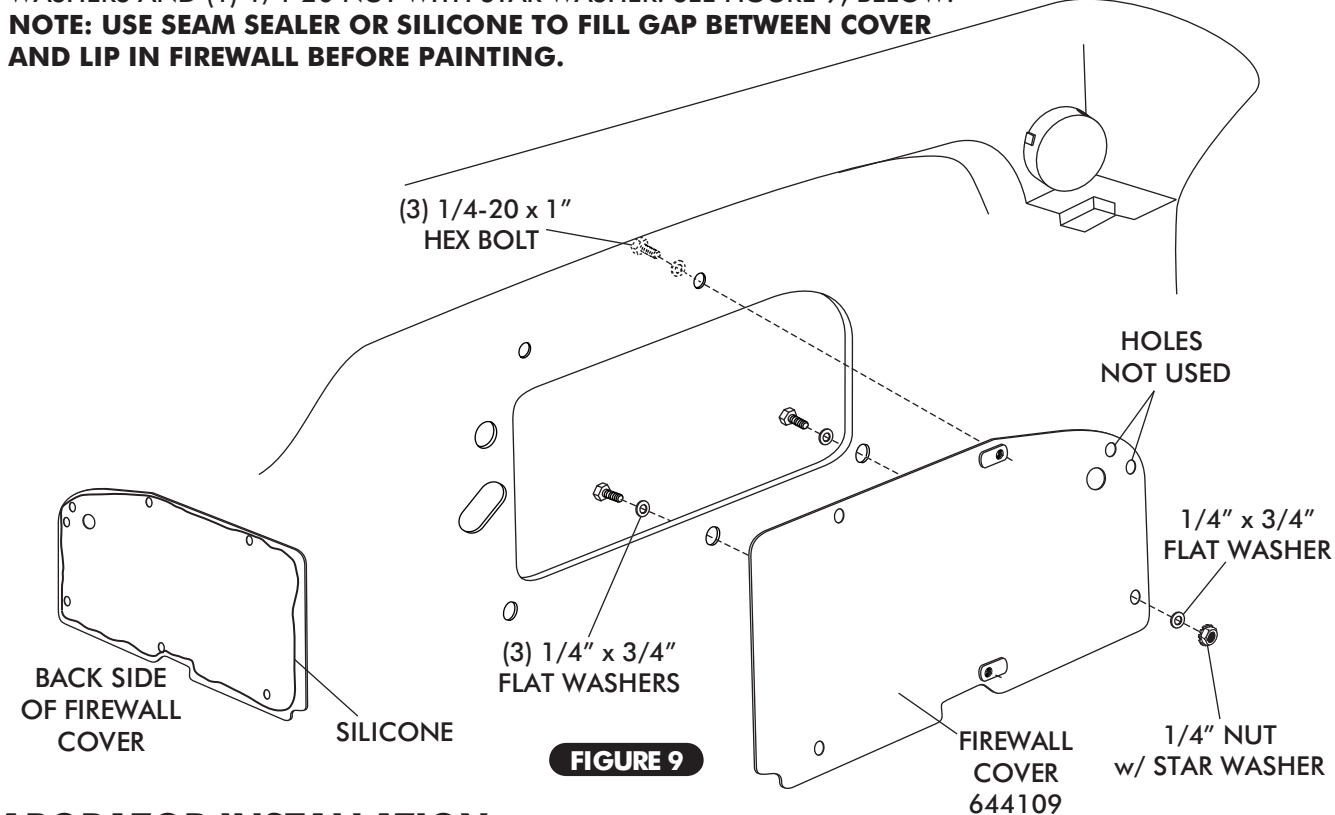

FIGURE 9
- APPLY A 1/4" BEAD OF SILICONE AROUND THE BACK SIDE OF THE FIREWALL COVER AS SHOWN IN FIGURE 9, BELOW.
- FROM INSIDE THE CAR, INSTALL FIREWALL COVER ON FIREWALL USING (3) 1/4-20 x 1" HEX BOLTS, (3) FLAT WASHERS AND (1) 1/4-20 NUT WITH STAR WASHER. SEE FIGURE 9, BELOW.